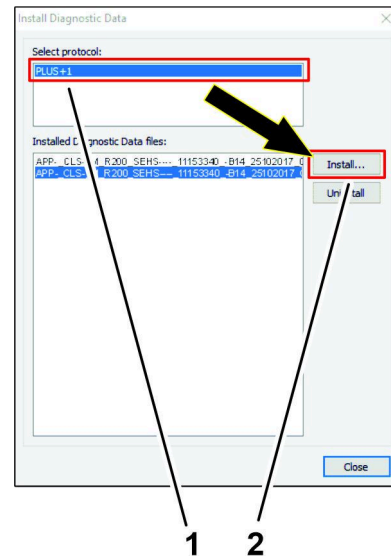

Figure 54
2. In the Install Select Protocol dialog box, click the PLUS+1 icon, and press the INSTALL icon (Figure 54).